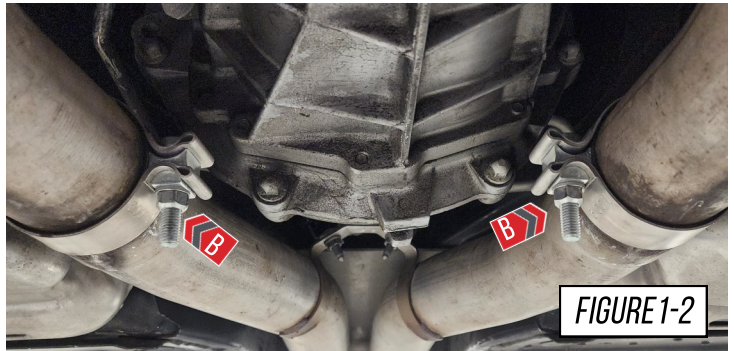

FIGURE 1-2
Loosen the OE clamps shown at (B) in **Figure 1-2**.